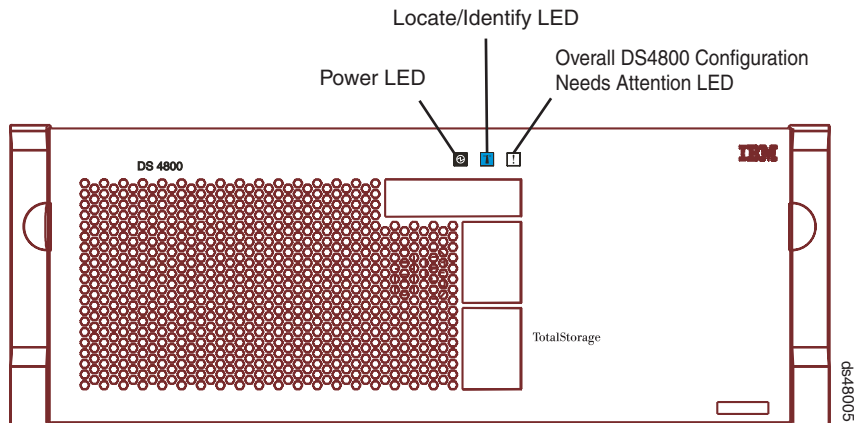

Figure 92. Overall DS4800 Configuration Needs Attention LED on the DS4800 front bezel
2. Locate the storage subsystem that contains the failed power supply and fan unit by checking the Overall DS4800 Configuration Needs Attention LED on the front bezel of the storage subsystem. (Figure 92 on page 158 shows the location of the Overall DS4800 Configuration Needs Attention LED on the front